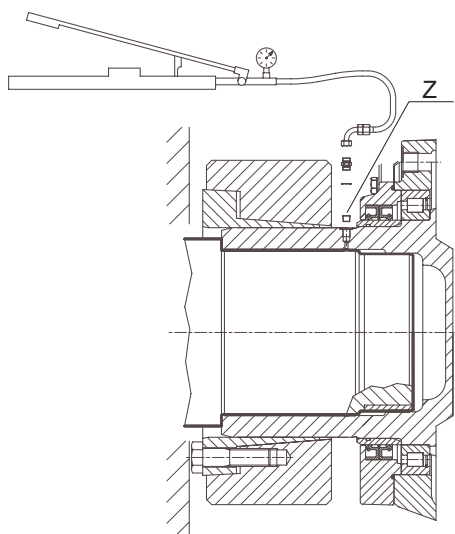

Fig. 4
- Use a pin remover and hammer to remove one of the two pins "A" from its seat (see fig. 4), remove the two springs "B", then remove the other pin.
- Slide the coupling along its axis to release it and remove cap “Z” (see fig. 4), and introduce pressurised oil (max. 1000 bar) through the 1/8” G hole to facilitate the detachment of the gear unit from the machine shaft.